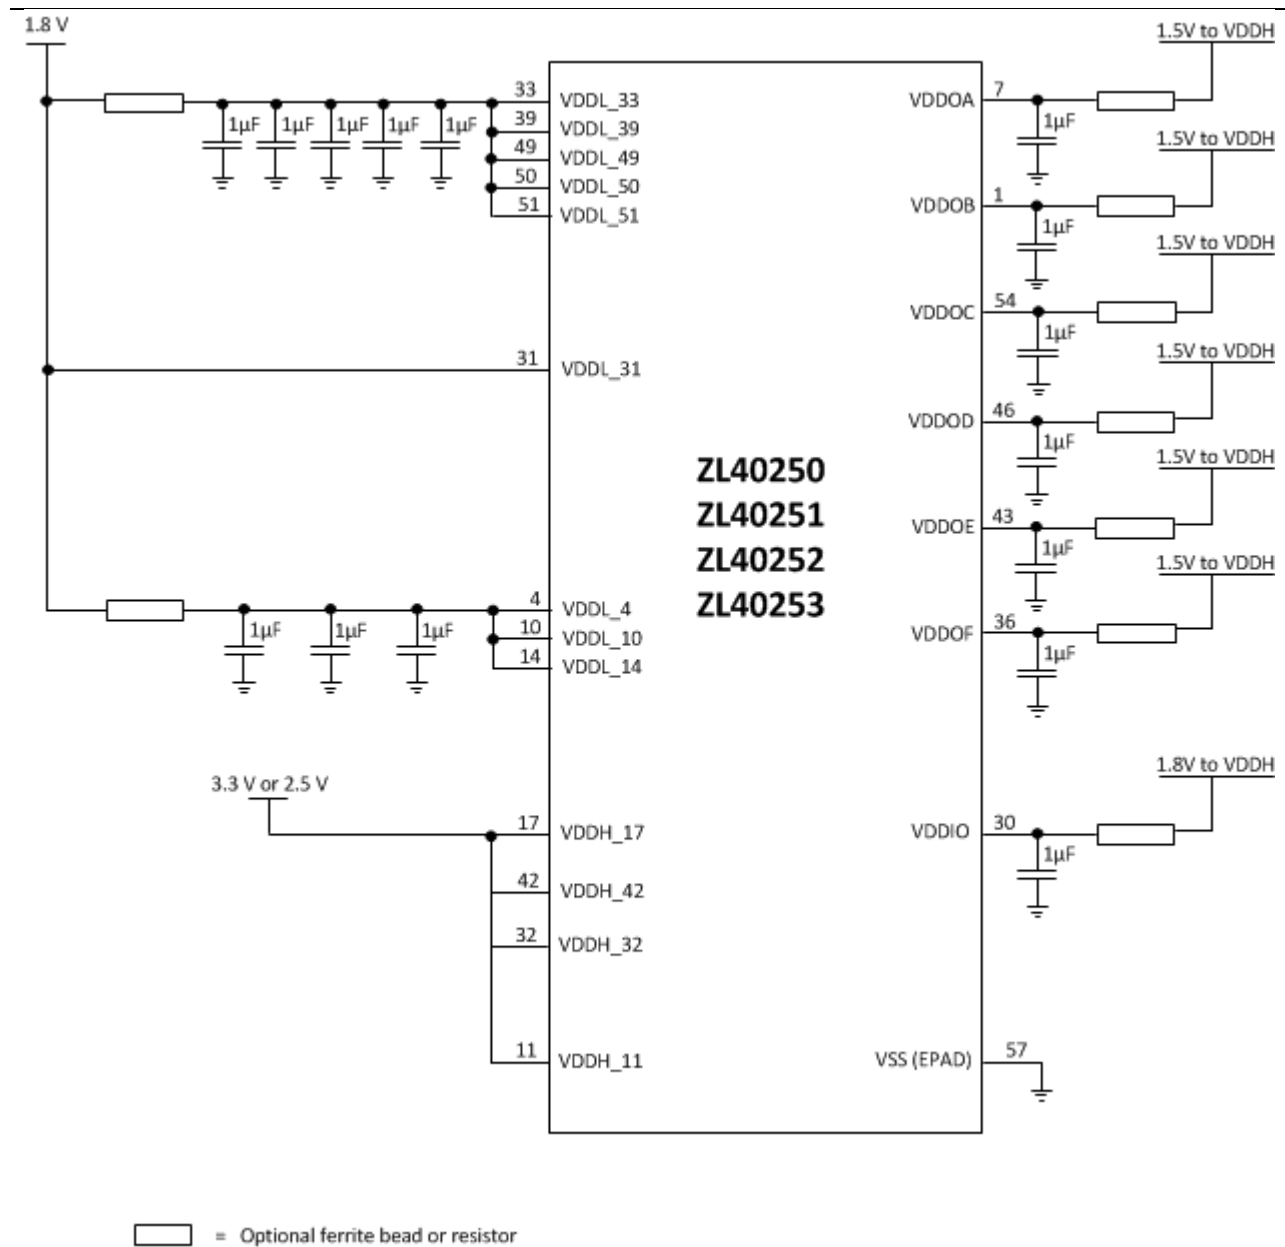

Figure 1 Example ZL40250 – ZL40253 Power Supply Decoupling Scheme Using Power Islands
- Allocate one low-ESR 0.1 μF to 1 μF decoupling capacitor for the power pins as shown in Figure 1. Example recommended capacitor types are ceramic X5R and X7R. Each capacitor should be located as close as possible to its respective device power pin. Each capacitor should be connected directly to the power pin and should not share vias to power or ground planes with other decoupling capacitors.
Figure 1 shows the application of these guidelines in an example configuration where power islands are used.